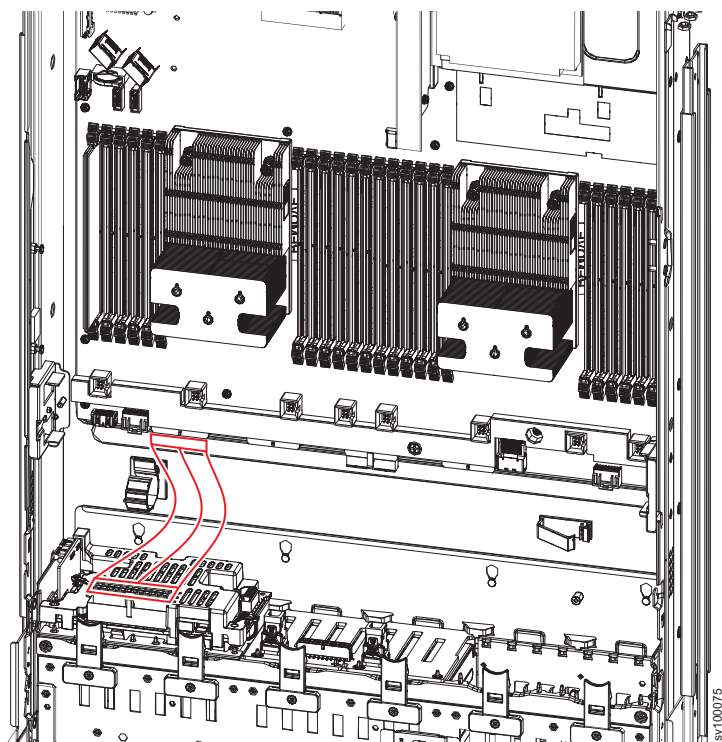

Figure 156. 2145-SV1 battery backplane power cable
5. Remove the power cable between the battery backplane and the system board, as shown in Figure 156 on page 188.